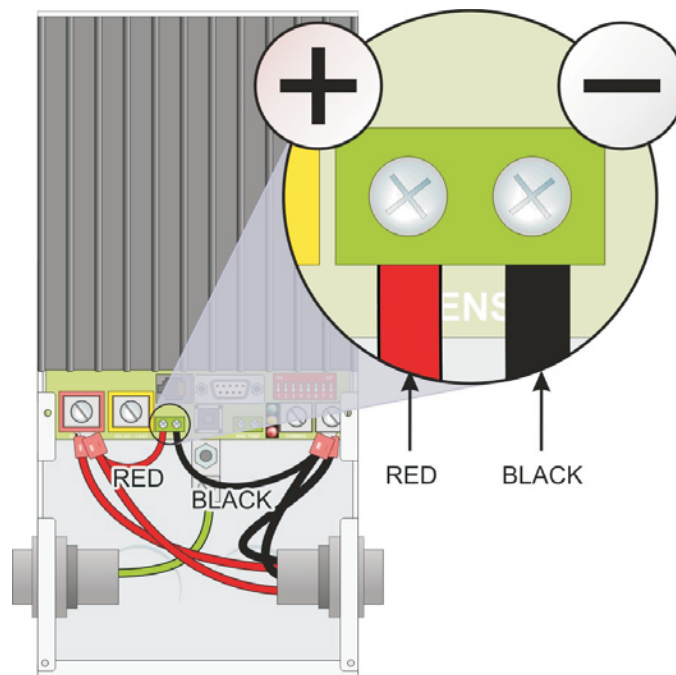

Figure 6-21:
13. Attach the Load Diverter's red and black wires to the battery leads—red wire to positive and black wire to negative, as shown in Figure 6-21.